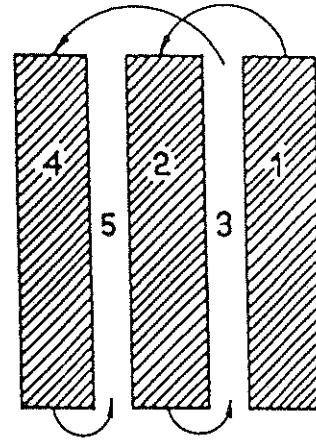

FIGURE 15
- For easier handling of your Tiller, leave about 8 inches of untilled soil between the first and second tilling passes. The third pass will be between the first and second (Fig. 15).